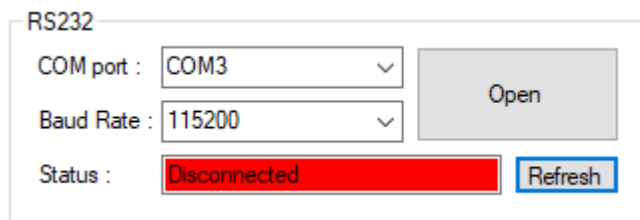

Figure 4: RS232 Setup – Disconnected
1. When the AT GUI program runs, the connection status is red (not connected). If the program does not detect any COM port, click the **Refresh** button to refresh the COM Port. See Figure 4.